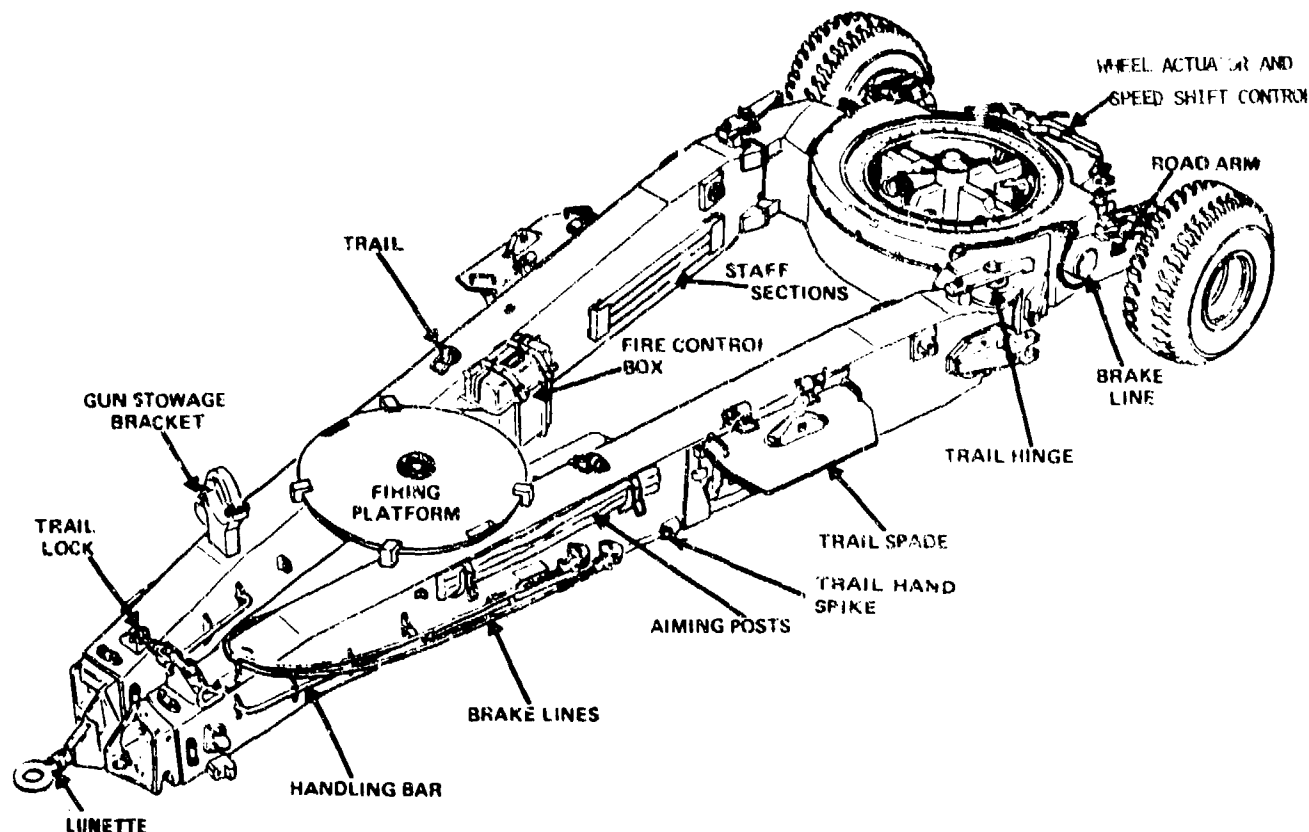

Figure 6-2. Trails.
(1) The trails are used to connect the weapon and the prime mover. When traveling they are used to stabilize the weapon in the towed position and to carry the spades, aiming post, rammer staff sections, sledge hammer, weapon handling bars, M13 ramming pad bell rammer pick, spade keys, base plate, loading tray and sight box with sights inside.
(2) The trails (fig 6-2) are hinged to the bottom carriage; when they are spread, each trail forms a 30° angle with the center of the carriage. On each trail are arms with shoulders which contact wedge-shaped stops welded to the top and bottom of the bottom carriage to control maximum spread.
(3) The trails are equipped with trail handles to help lift the weapon.
(4) When the top carriage is properly centered, plates welded to the top trail hinges contact stops welded to the bottom plate of the top carriage. This prevents movement of the top carriage during travel.